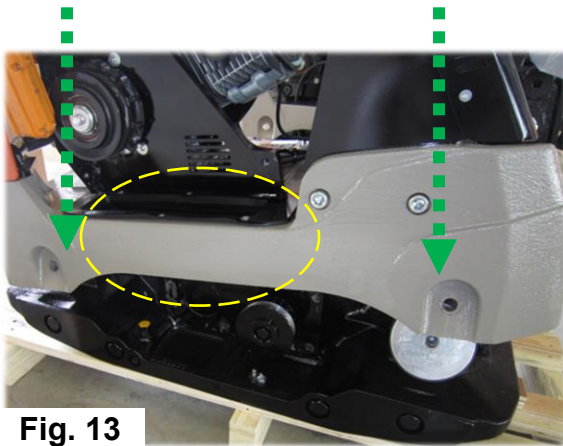

Fig. 13
- 6) Place the upper base back onto the rubber mounts ensuring the rubber dust cover is guided around the lower guide plate & belt cover, (Ref. Fig. 13).